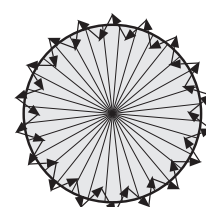

FIG.14
- 4.4.1.4 Walk from outside across the detection pattern until red LED turns on for approx. 2sec then off, the next trigger should be 2sec interval (see FIG.14).